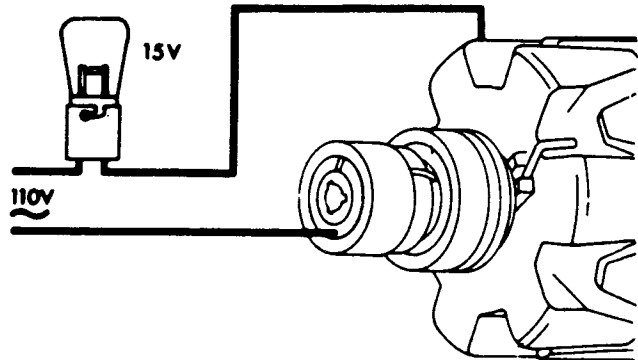

Fig O6.4
- (1) Refer to Fig O6.4. Connect a 110 volt ac supply between each slip-ring and the rotor poles in turn.
- (2) If the lamp lights, the coil is earthed to the rotor core and a replacement rotor and slip-ring assembly should be fitted.